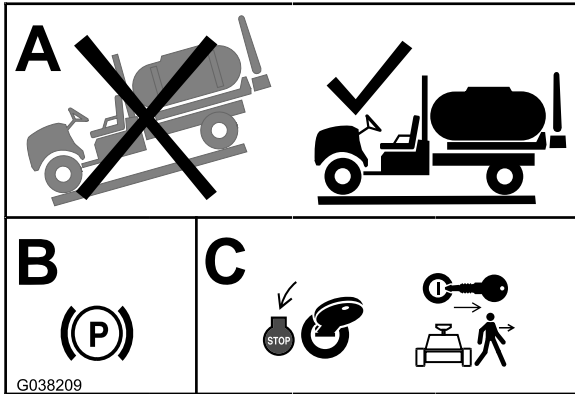

Figure 1
1. Move the machine to a level surface (Figure 1).
2. Set the parking brake (Figure 1).
3. Shut off the engine and remove the key (Figure 1).